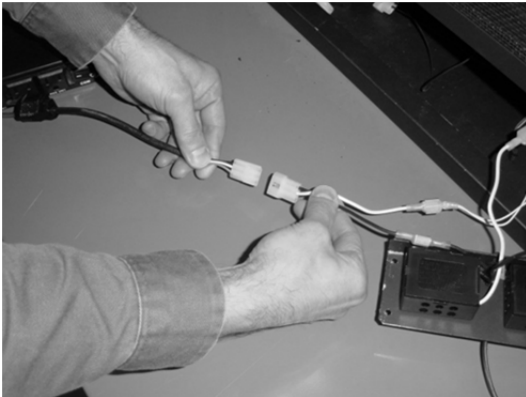
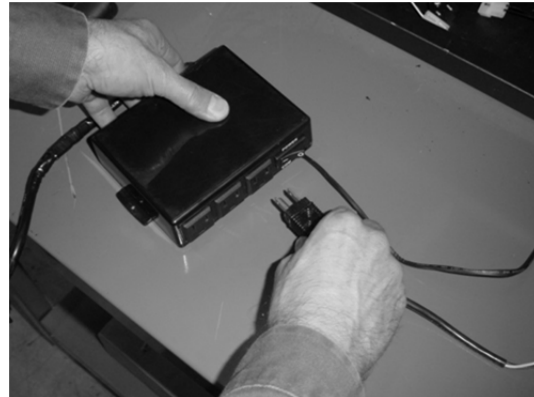

Figure 24
Figure 25
- 16 Disconnect the power lead from accent light and connect it to the power lead included with this kit (see Figure 24). Attach the power lead to the fan controller in the “AUX OUT” receptacle (see Figure 25).